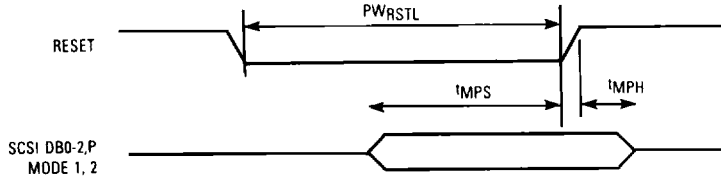

Figure 17. Reset Timing Diagram
**SPECIAL TIMING** (see Figures 17 and 18)